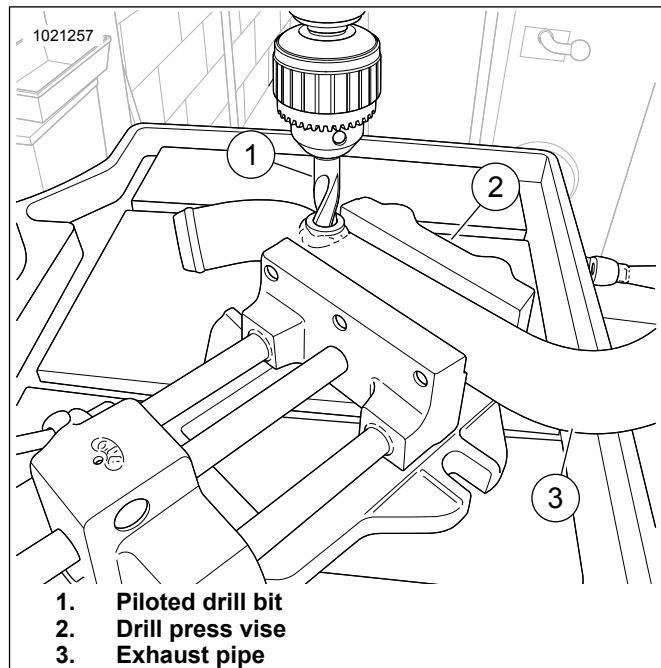

Figure 2. Drilling Exhaust Pipe
3. Table 2 Install piloted drill bit (1) into drill press chuck.
4. Figure 2
a. Position exhaust pipe (3) into drill press vise (2).